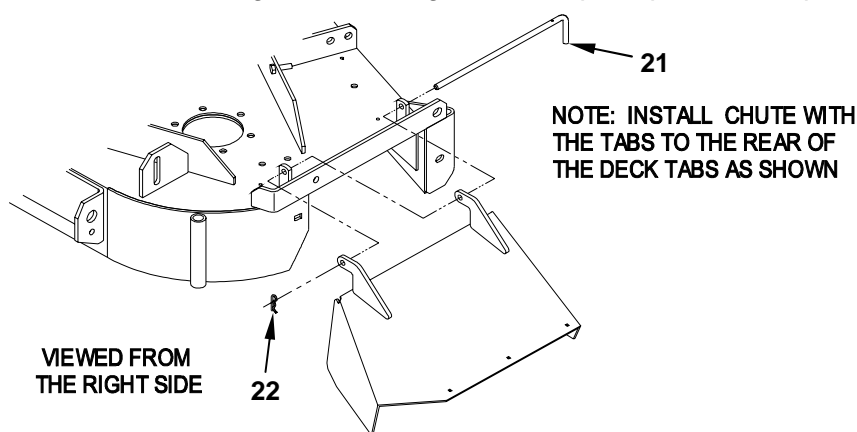

FIGURE 10
- 4.3.6. Install the discharge chute using the chute pivot pin and hairpin (See Figure 10).